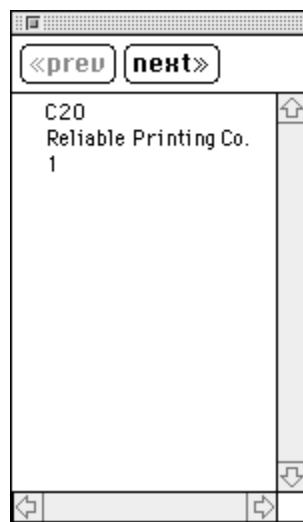

Figure 2-14 Data Palette with OMNIDATA.TXT
5. The data palette automatically appears and displays a single record from the data file. Note that there are three data fields in the first record of **OMNIDATA.TXT**. The first field is displayed on the top line of the data palette, the second field on the second line, and the third field on the third line. See Figure 2-14. Use the mouse pointer to enlarge the window wide enough to display all the characters in the record.